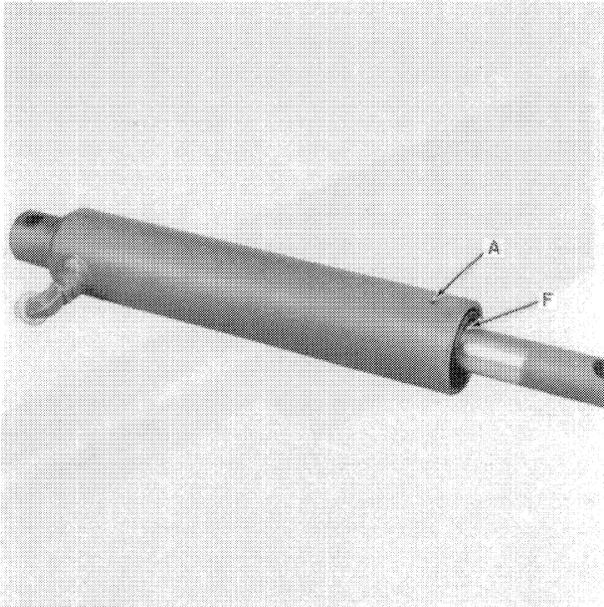
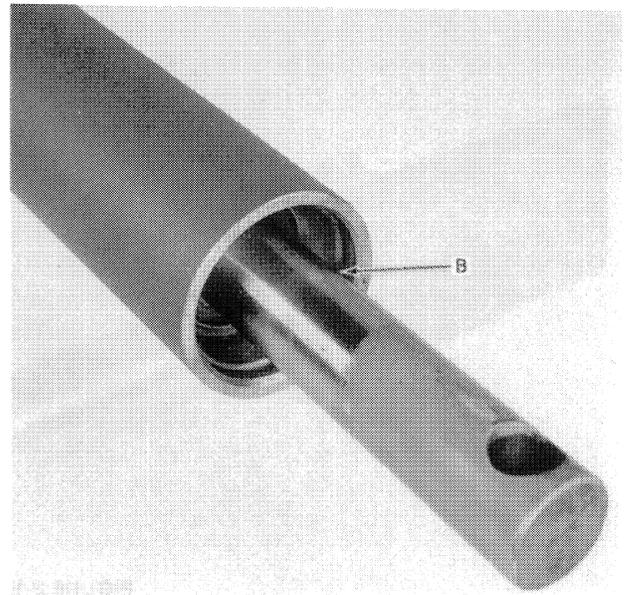

FIGURE 2-7
FIGURE 2-8
1. Remove setscrew, A, Figure 2-7.
2. Tap cylinder head, F, Figure 2-7, into the cylinder far enough to remove retaining ring, B, Figure 2-8.
4. Insert the complete piston rod assembly into the barrel and install retaining ring, B, Figure 2-8.
5. Install setscrew, A, Figure 2-7, aligning it with the groove in cylinder head, F.